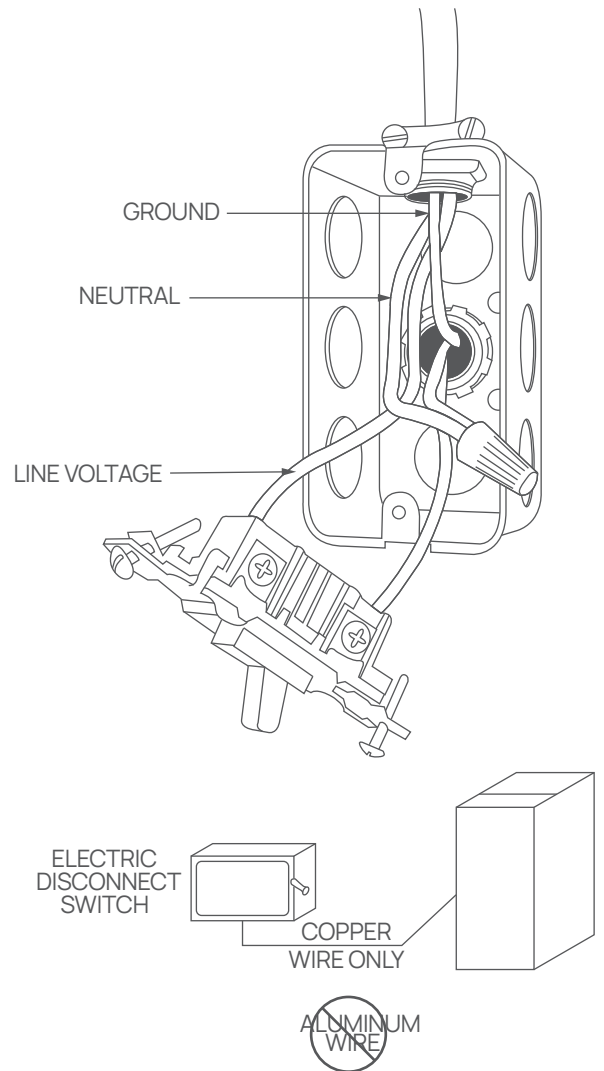

Fig. 46 – Field-Supplied Electrical Box on Furnace Casing
1. Fasten a field-supplied external electrical box to the outside of the casing by driving two field-supplied screws into casing. See Fig. 46.
6. Connect field ground wire and factory ground wire to green ground screw on J-Box mounting bracket as shown in Fig.46.
7. Connect field power and neutral leads to furnace power leads as shown in Fig. 46.
9. Complete external disconnect wiring and installation. Connect line voltage leads as shown in Fig. 46. Use best practices (NEC in U.S.A. for wire bushings, strain relief, etc., CANADA: Canadian Electrical Code CSA C22.1)